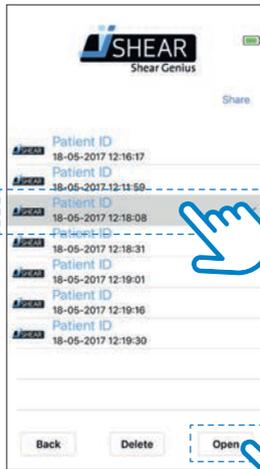

Figure 29a - Open selected File
4. Tap the File you wish to view and tap 'Open' (see Figure 29a)